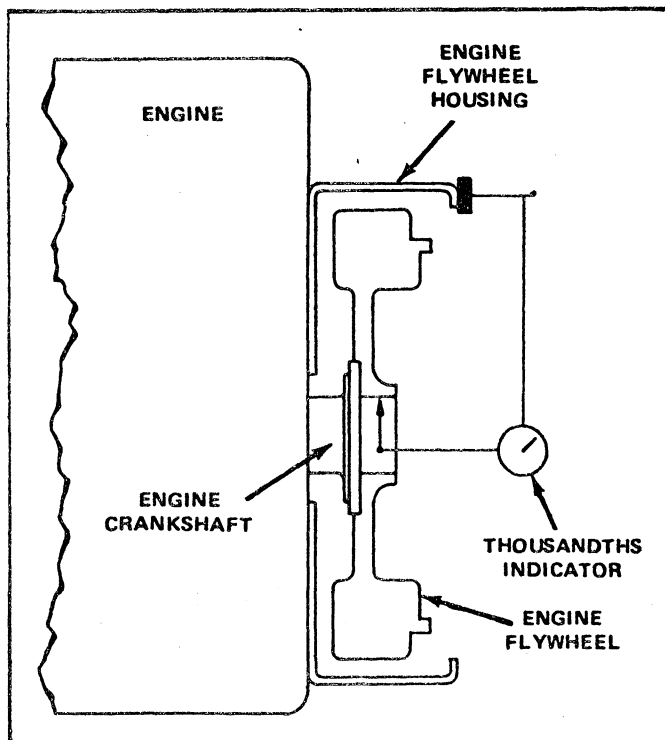
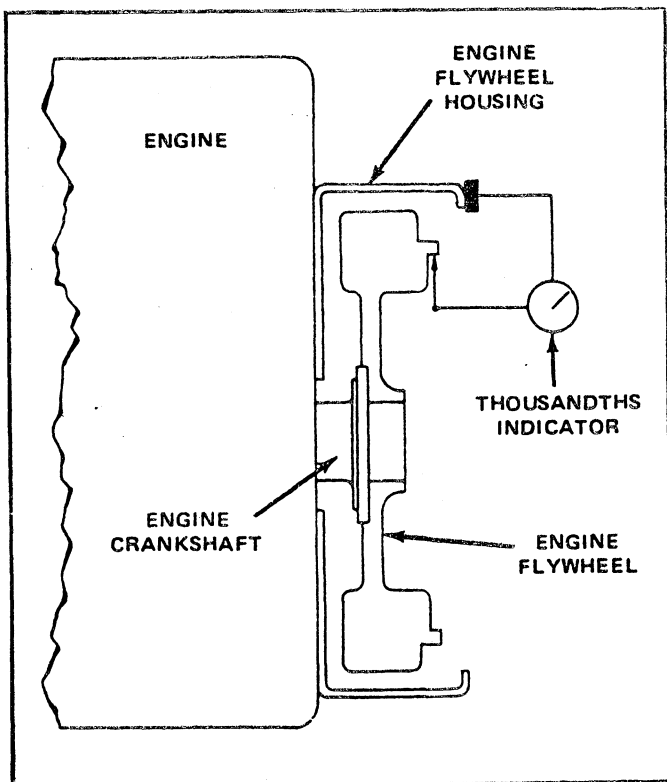

Figure 9-15. Checking pilot bearing bore of engine flywheel.
Figure 9-14. Checking the driving ring pilot bore of engine flywheel.
6. With the indicator mounted as in the paragraph above, adjust the indicator stem so that it will ride on the driving ring pilot bore of the engine flywheel. See figure 9-14. Rotate the flywheel. The driving ring pilot bore eccentricity of the engine flywheel should not exceed 0.005 inch maximum total indicator reading. Thrust on the flywheel should be in one direction at all times to obtain a correct reading.
7. Readjust the indicator so that the stem will ride on the pilot bearing bore of the flywheel. See figure 9-15. Rotate the flywheel. The eccentricity of the pilot bearing bore should not exceed 0.005 maximum total indicator reading. Eccentricity between the driving ring pilot bore (figure 9-14) and pilot bearing bore (figure 9-15) should not exceed 0.008 inch total indicator reading.